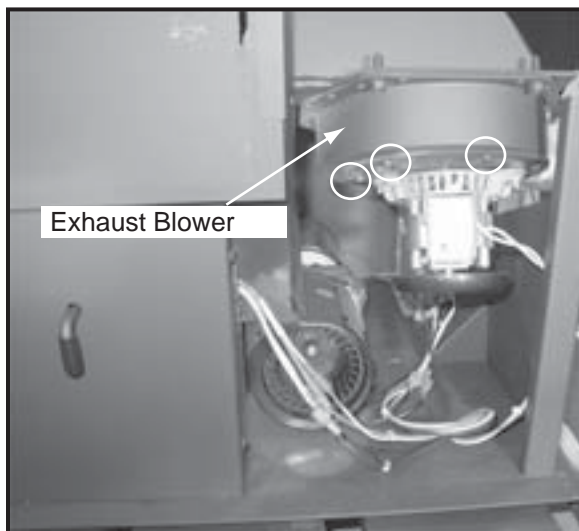

Figure 22.1
4. There is a removable plate on the exhaust blower. Depending on the model, use a 1/4 inch socket, or 1/4 inch Nut Driver or #2 Phillips Head screw driver to loosen the 6 screws in the keyhole shaped holes and rotate the plate. It is only necessary to loosen screws. **Figure 22.1.**
3. Snap disc #1 is located on the convection plenum below the feed motor. **Figure 22.1.**
3. Snap disc #3 is located on the bracket on the feed tube near the feed motor. **Figure 22.1.**